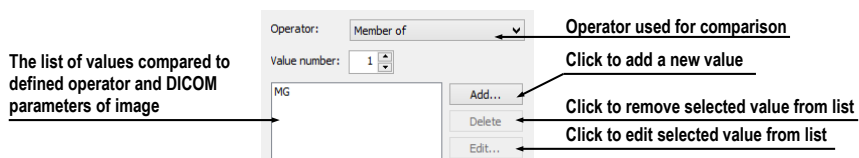

Figure 190 – DICOM criteria set dialog
4. Define the allowed values for the specified DICOM tag (see Figure 190):